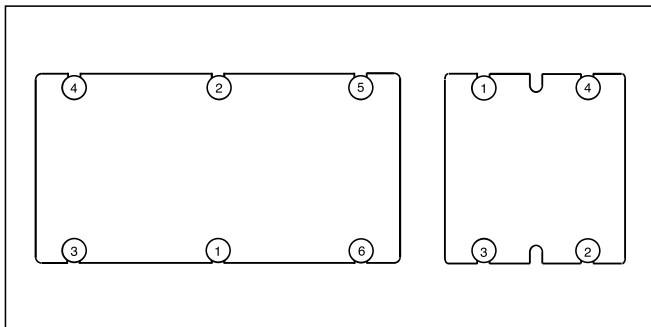

**Figure 20-5** — Heat sink torquing sequence VI-200 / VI-J00
- Torque screws to 6 in-lbs (0.7 N-m) per Figure 20-5.